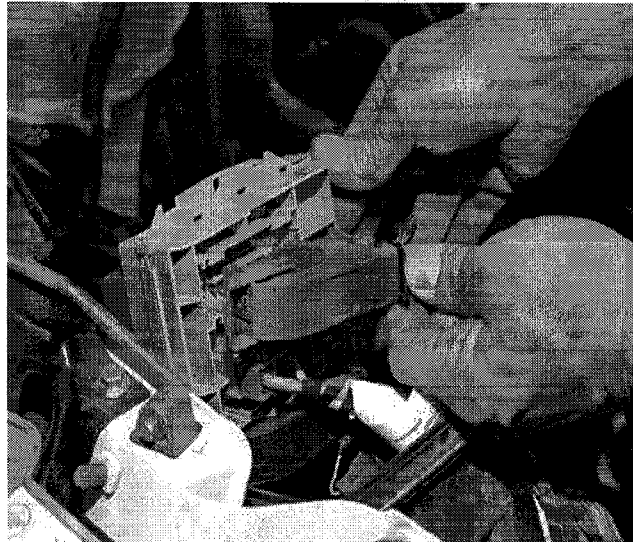

Fig. 2 PDC Connector C1 Location
4. Turn the PDC over and disconnect the tan colored C1 connector (See Figure 2).